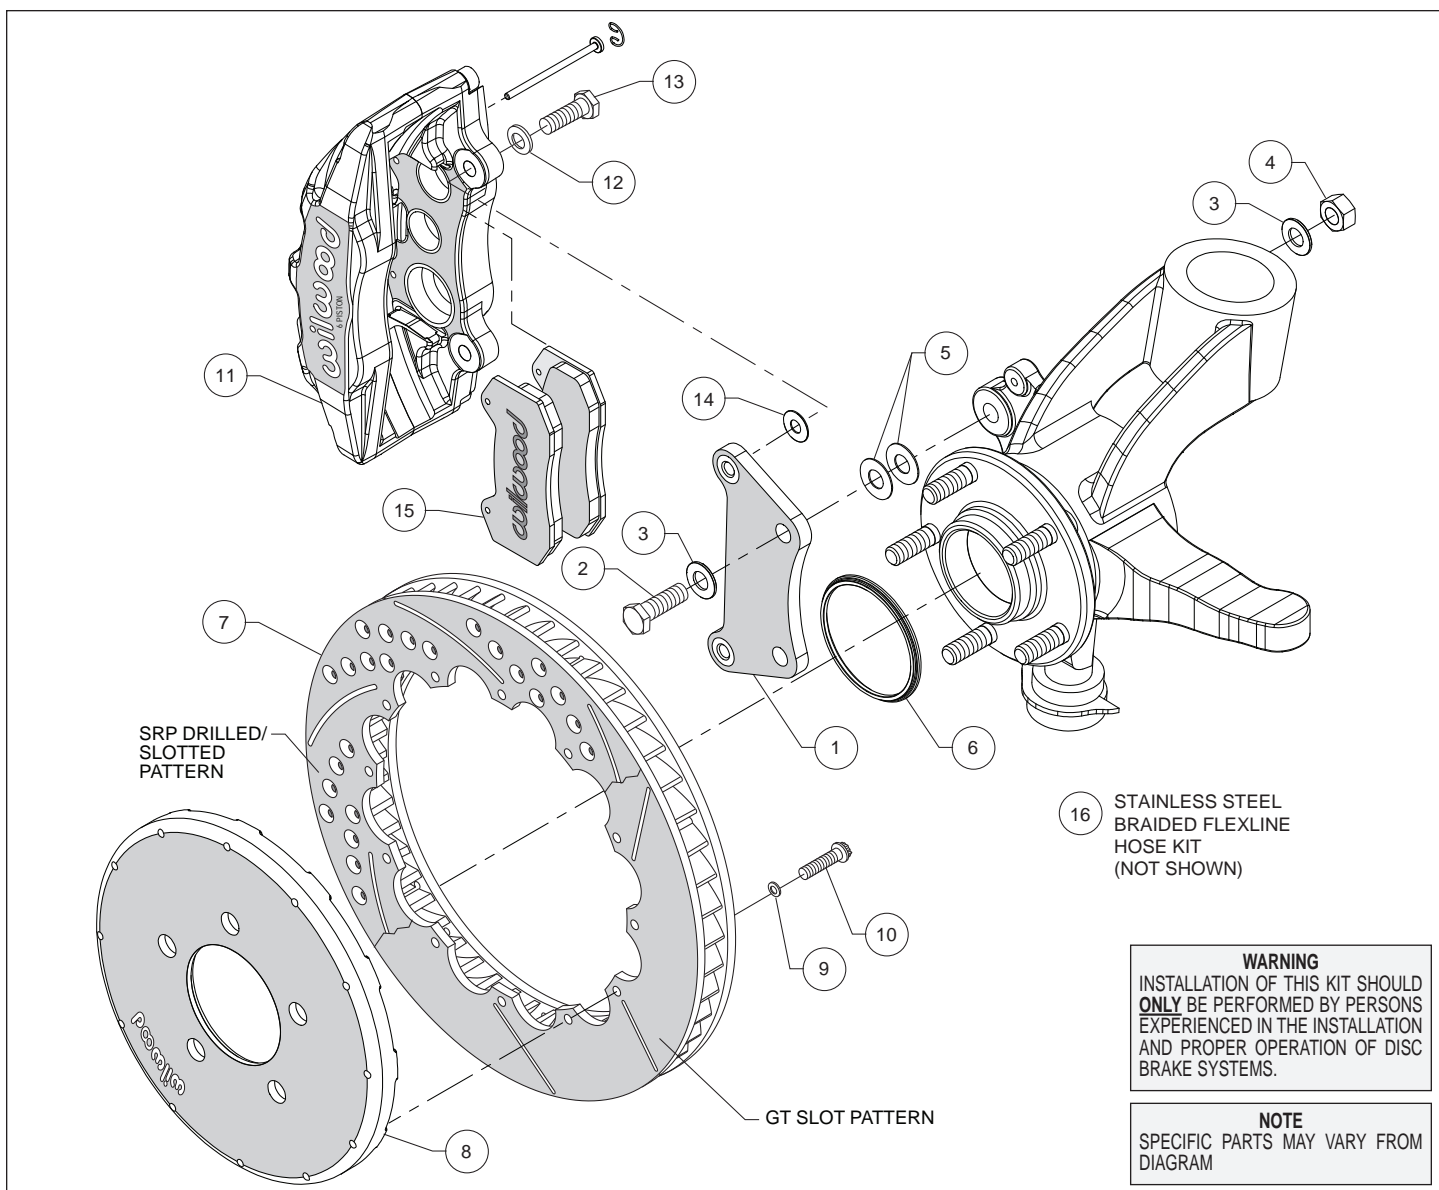
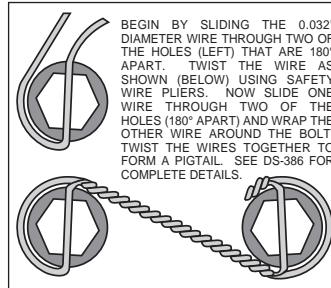

Figure 1. Typical Installation Configuration
Figure 3. Safety Wire Diagram
Assembly Instructions (numbers in parenthesis refer to the parts list and Figure 1 on the preceding pages):
- Orient the caliper mount bracket (1) as shown in Figure 1 and Photo 1, and install using bolts (2), washers (3), and nuts (4). Place two .033" thick shims (5) on each bolt between the bracket and caliper mounting bosses, Figure 1. Ensure that the flanged heads of the clinch nuts in the bracket are facing outboard, Photo 1. Temporarily tighten the mounting bolts. **NOTE:** *The bracket must fit squarely against the mount bosses on the upright.* Inspect for interference from casting irregularities, machining ridges, burrs, etc. Remove bolts one at a time, apply red *Loctite*® 271 to the threads and torque to 60 ft-lb.
- Orient the rotor (7) and the hat (8) as shown in Figure 1 and Photo 2. Attach rotor to hat using bolts (10) and washers (9). Using an alternating sequence, apply red *Loctite*® 271 to the threads and torque bolts to 155 in-lb. For an added measure of security, the bolts may be safety wired using standard 0.032 inch diameter stainless steel safety wire as shown in Figure 3. Please refer to Wilwood's data sheet DS-386 (available at www.wilwood.com/Pdf/DataSheets/ds386.pdf) for complete safety wire installation instructions.
- **NOTE:** *This kit contains distinct right and left hand calipers that must be mounted in a specific direction, as described below.* Mount the caliper (11) onto the caliper mounting bracket (1) using bolts (13) and washers (12), as shown in Figure 1. Initially place one .035" thick shim (14) on each bolt between the caliper and the bracket, Figure 1 and Photo 5. Ensure that the caliper is mounted so the largest pistons are at the rotor exit end of the caliper, in relation to the direction of rotor rotation. Temporarily tighten the mounting bolts and view the rotor (7) through the top opening of the caliper. The rotor should be centered in the caliper, Photo 6. If not, adjust by adding or subtracting shims (14) between the bracket and the caliper. Always use the same amount of shims on each of the two mounting bolts. Once the caliper alignment is correct, remove the mounting bolts and caliper.
- Remove the two pad retaining pins from the caliper (11) by carefully popping out the pin retaining clips and sliding out the pins. Insert the brake pads (15) into the caliper from the bottom, Figure 1 and Photo 7, with the friction material facing the rotor. Secure the brake pads in place with the pad retaining pins and clips, Photo 8. Reinstall the caliper onto the caliper mounting bracket. Apply red *Loctite*® 271 to bolt threads (13), and torque to 40 ft-lb.